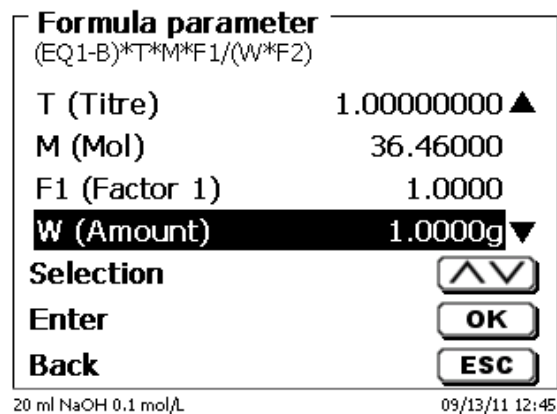
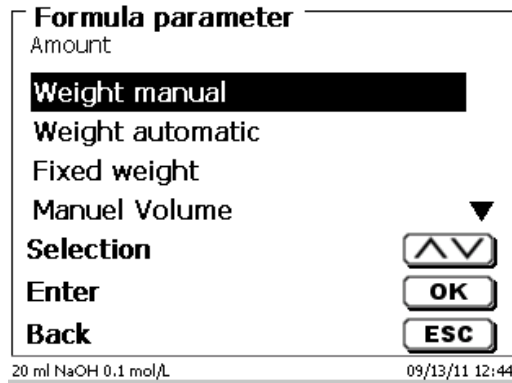

Fig. 93
Fig. 94
The Sample Quantity (W) item (Fig. 93) is used to select whether one is wishing to use a sample weight or a sample volume for titration or solution preparation (Fig. 94).